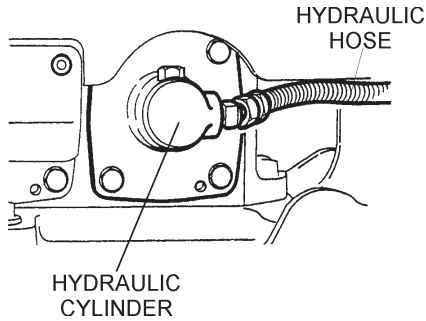

Figure 32. Hydraulic Oil Cylinder
1. Disconnect the hydraulic hose connected to the hydraulic oil cylinder (Figure 32).